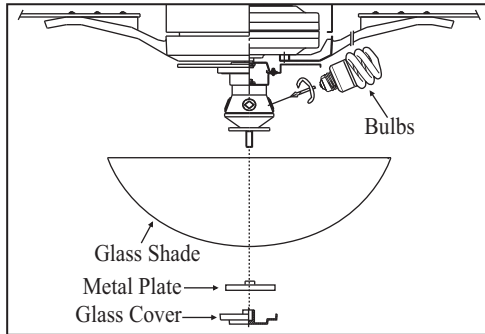

Figure 16
8. Raise the glass shade up against the light kit, Place the metal plate with rubber on the top over the stem and turn it clockwise until it locks up against the glass shade. Do not overtighten. (Fig. 16)